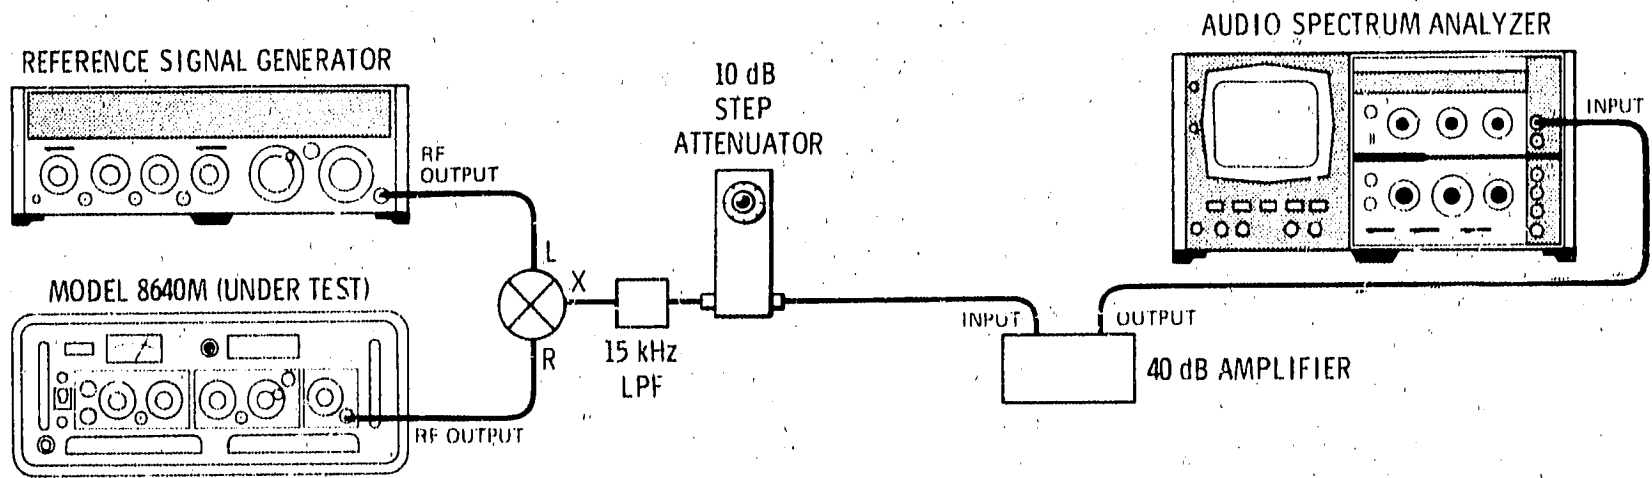

Figure 4-2. Single Sideband Broadband Noise Floor Test Setup
1. Connect equipment as shown in Figure 4-2 after setting test Signal Generator's controls as follows: